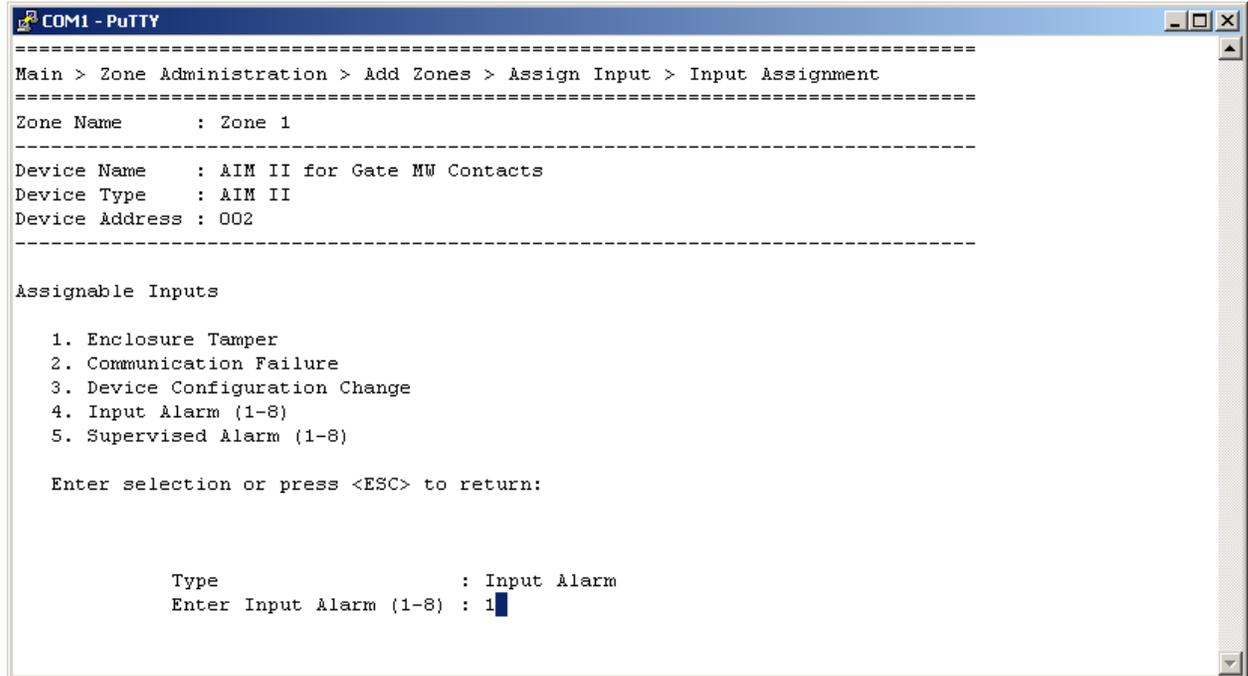

Figure 33 – Available Inputs Screen
Depending on the device type selected, a prompt will be displayed to select one of that devices alarm inputs and any additional information that is needed as shown in Figure 33. ***For cable alarms from MicroPoint™ II or MicroTrack™ II, prompts will be displayed for which cable (A or B) and the subcell range. For cable fault alarms prompts will be displayed for which cable (A or B).*** Using the example drawing as shown in Figure 12, Input Alarm (4) is selected for Type and Input 1 entered for the AIM II input. When finished a prompt will be displayed to accept or decline (Y/N) the setting. Select “Yes” to save the setting and continue.